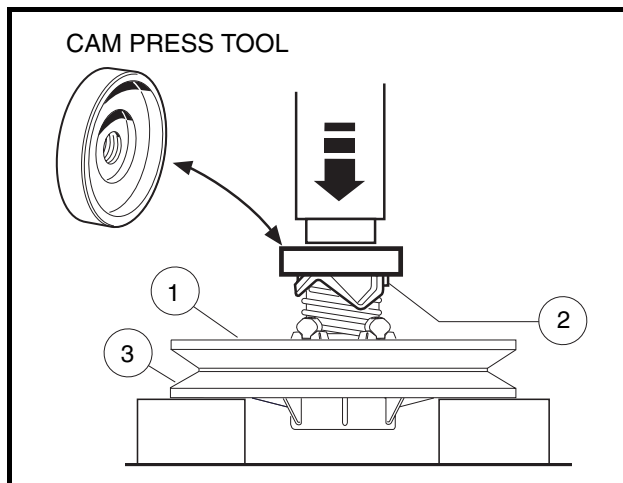

Figure 20-19 Cam Press Tool
- 5.1.1. Place the clutch assembly in a press and position the cam press tool (CCI P/N 101809101) on the cam as shown (**Figure 20-19, Page 20-15**).
- 5.1.2. Hold the fixed face assembly (3) and rotate the moveable face assembly (1) one-third turn **clockwise**, then press the cam (2) onto the fixed face assembly (**Figure 20-19, Page 20-15**).
- 5.2.4. Hold the clutch assembly and cam installation tool together and place the fixed face down on spaced blocks (**Figure 20-19, Page 20-15**).